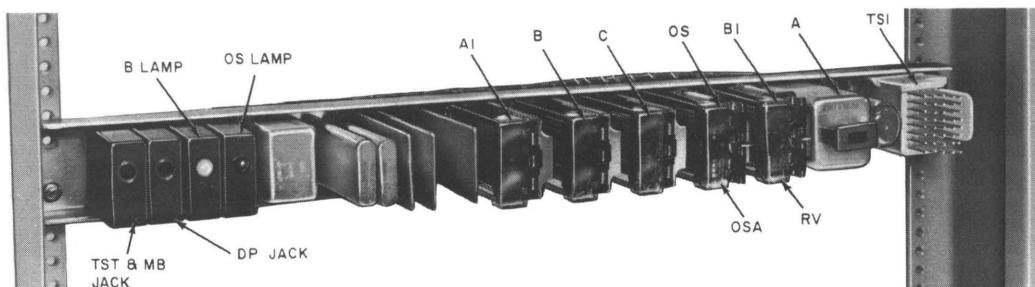
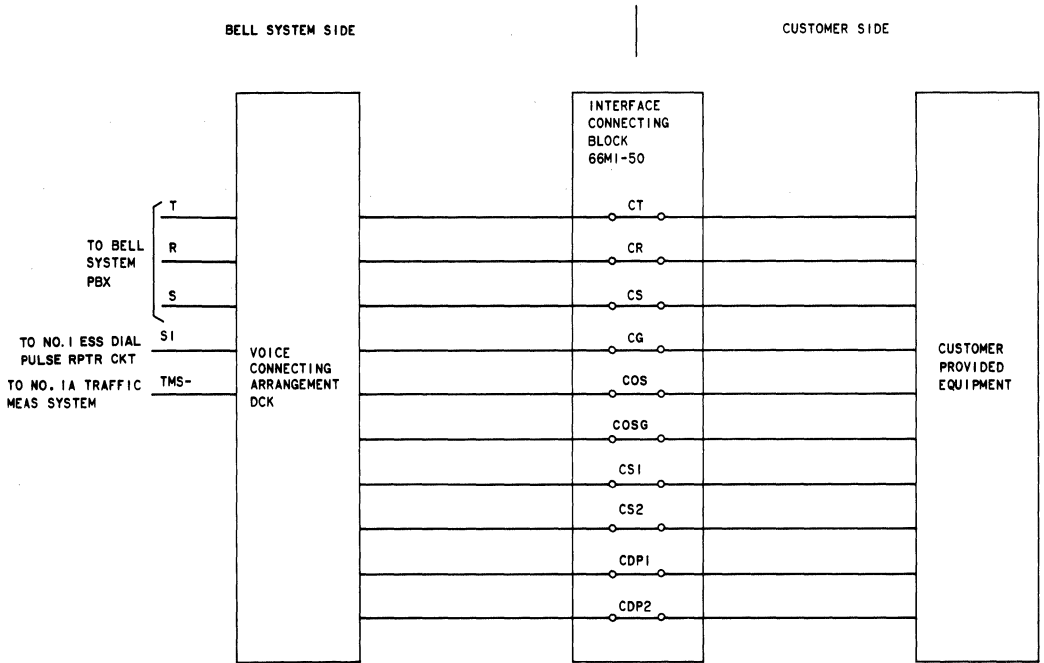

Fig. 1—J53050F, List 1A Interconnecting Unit
Fig. 2—Block Diagram—Voice Connecting Arrangement DCK
**1.01** This section provides identification, installation, operation, maintenance, and connecting information for Voice Connecting Arrangement DCK, using J53050F, List 1A interconnecting unit (IU) (Fig. 1). Voice Connecting Arrangement DCK (Fig. 2) provides connection via trunk level access between customer-provided equipment (CPE) (typically, dictation equipment, radio paging system, or information retrieval system) and a Bell System private branch exchange (PBX), Centrex System or Switching System.